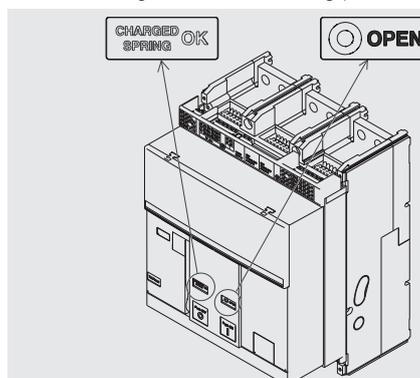

Figure 40
3. Check that the circuit-breaker is open (open/closed signalling device "O - OPEN"), and check that the springs are charged (springs signalling device "yellow - CHARGED SPRING") as indicated in Figure 40.